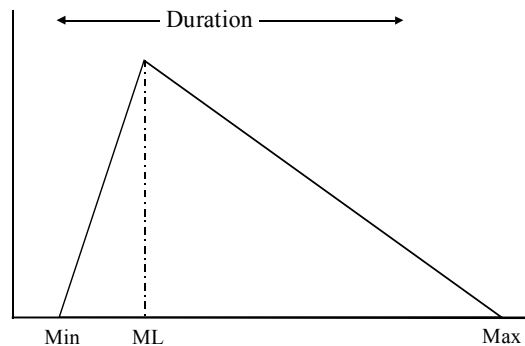

FIGURE 6. TRIANGULAR DISTRIBUTION
The minimum, most likely (ML) and maximum task durations are needed to run the Monte Carlo simulation. The probability distribution function (PDF) normally used is a triangular distribution⁶ (Figure 6).